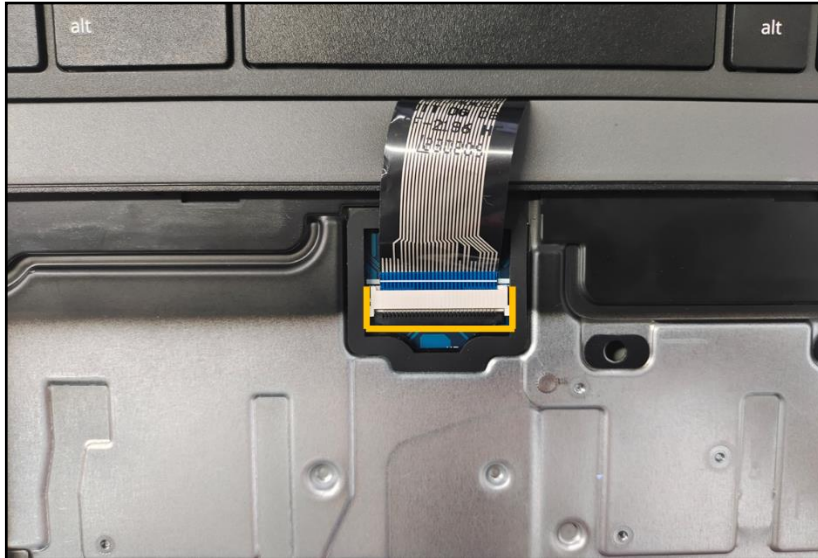

Figure 3-17. Keyboard Removal
5. Disconnect the keyboard FPC from the mainboard connector (C) (Figure 3-17). Then remove the keyboard.